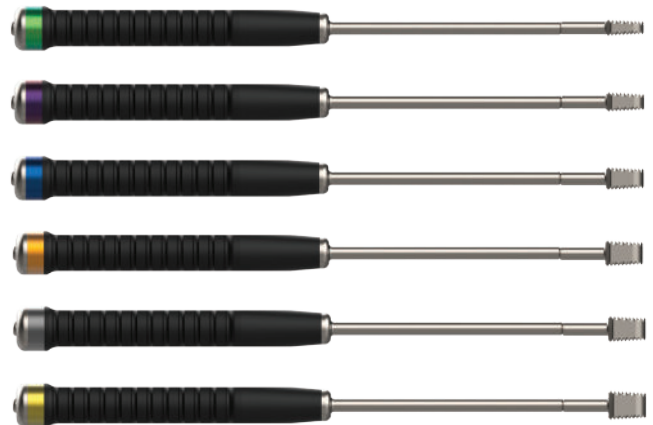

Figure 6
- Each trial is color coded to differentiate height and should be used incrementally to determine the appropriate dimensions of the interbody required (Figure 6).